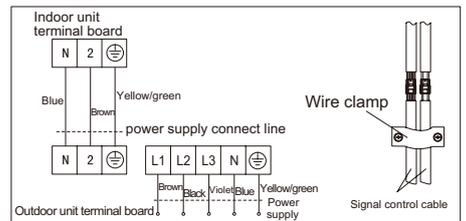

Fig.6.
4. According to the diagram for wiring,according to the marks on wire board for connection correspondingly,as shown in Fig.6.